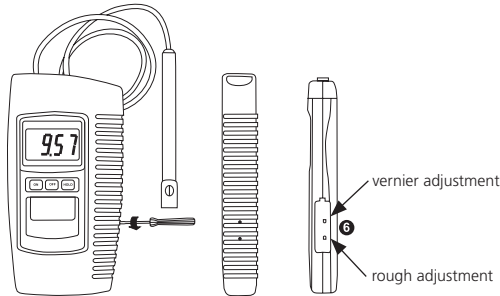

Figure 2
2. Hold the Probe Handle by hand and immerse the let the Probe Head wholly into the measured solution. Shake the Probe several time to let the air bubble leave away from the Probe Head until the reading value reach stable. Calibrate the instrument with the calibration screws (Figure 2, 6) until display show the value same as 0.60 exactly